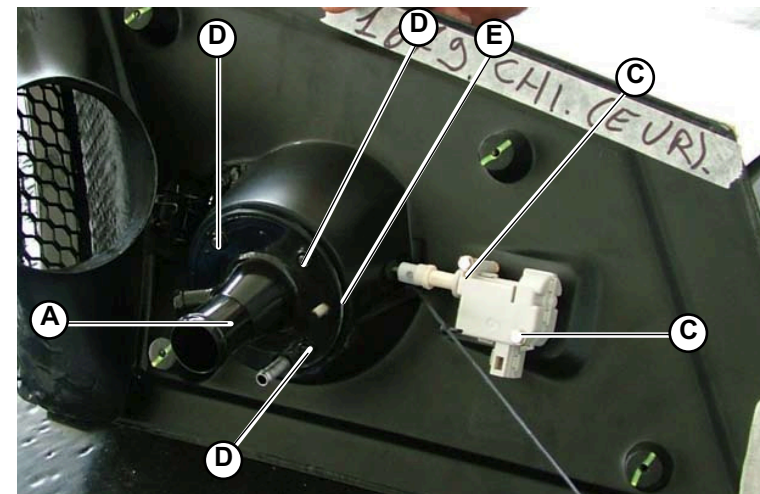

Fig.5
1. Disconnect the pipe connecting the fuel tank to the filler (A-Fig.5).
3. To disassemble the actuator, unscrew the 2 screws (C-Fig.5).
4. To disassemble the filler, unscrew the 4 screws (D-Fig.5) and remove the gasket (E-Fig.5).